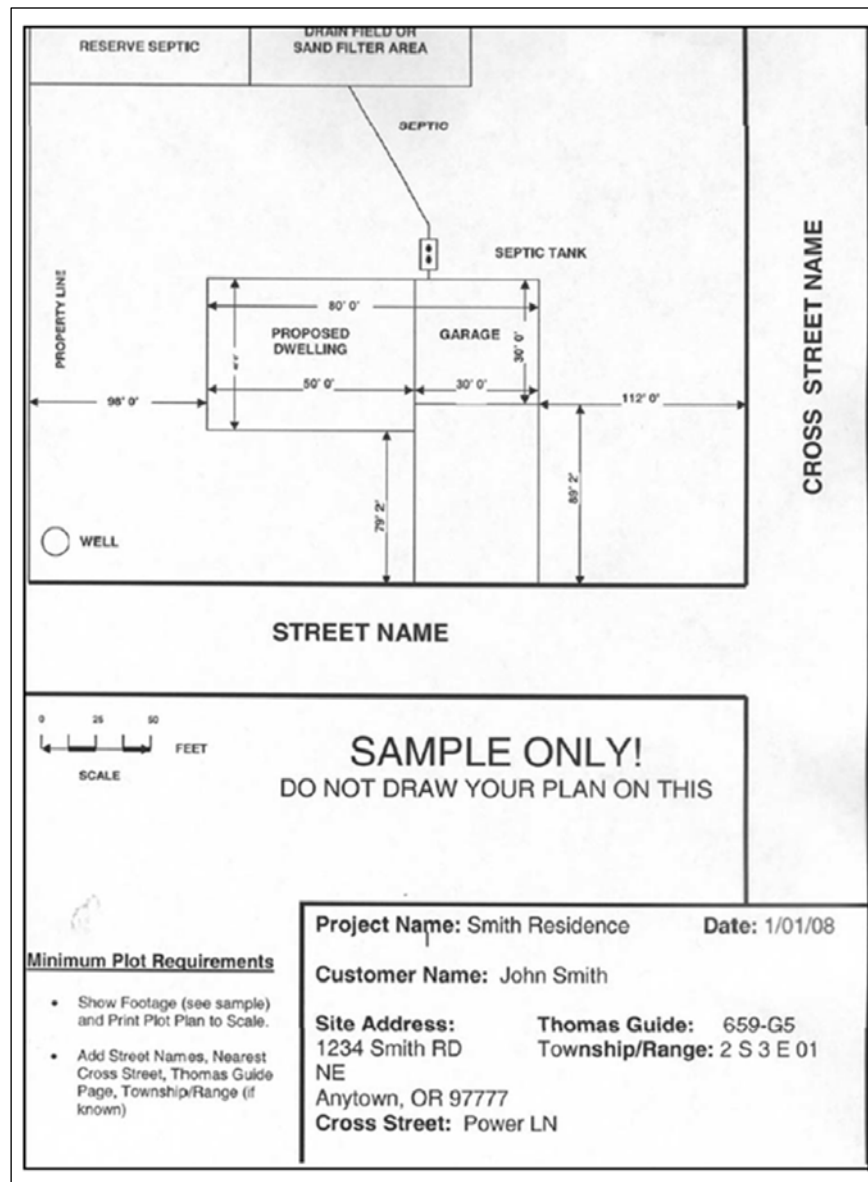

Figure 101: Example Plot/Site Plan
3. Provide a hard copy of the scaled plot or site plan that was submitted for the building permit. New connected load data that is not accompanied by a site plan may delay initiation of service. **Figure 101** on page 160 shows an example plot/site plan.